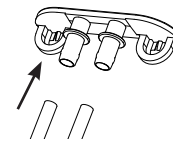

Figure 6
7. Replace the drain plugs and clip them back onto Opal. See figures 6 and 7 for reference.